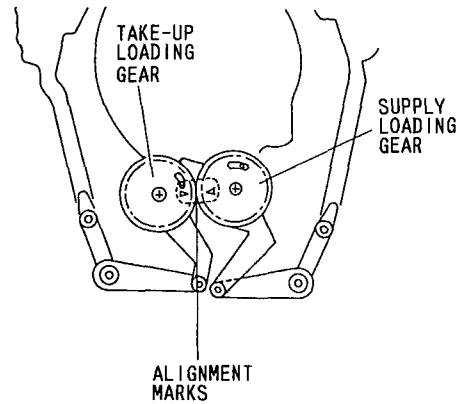

Fig. 4-30
- 1) Align the markings. (See Fig. 4-30)